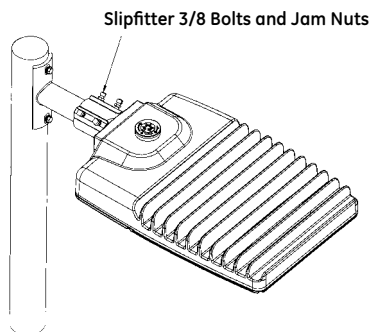

FIGURE 1
- Tighten the (4) slipfitter 3/8 bolts to 10-14 ft-lbs (14-19 N-m). Tighten jam nuts after bolts have been tightened. (See Figure 1)